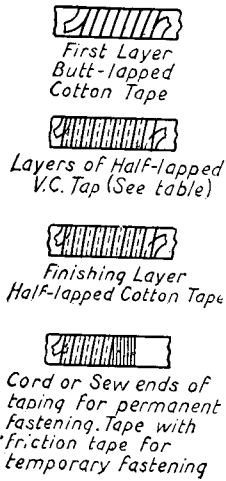

Fig. 7 - Instructions for Taping Connections
8. Insulate the connections with varnished cambric and non-elastic webbing in accordance with Westinghouse Standards for the various operating potentials. See Fig. 7.